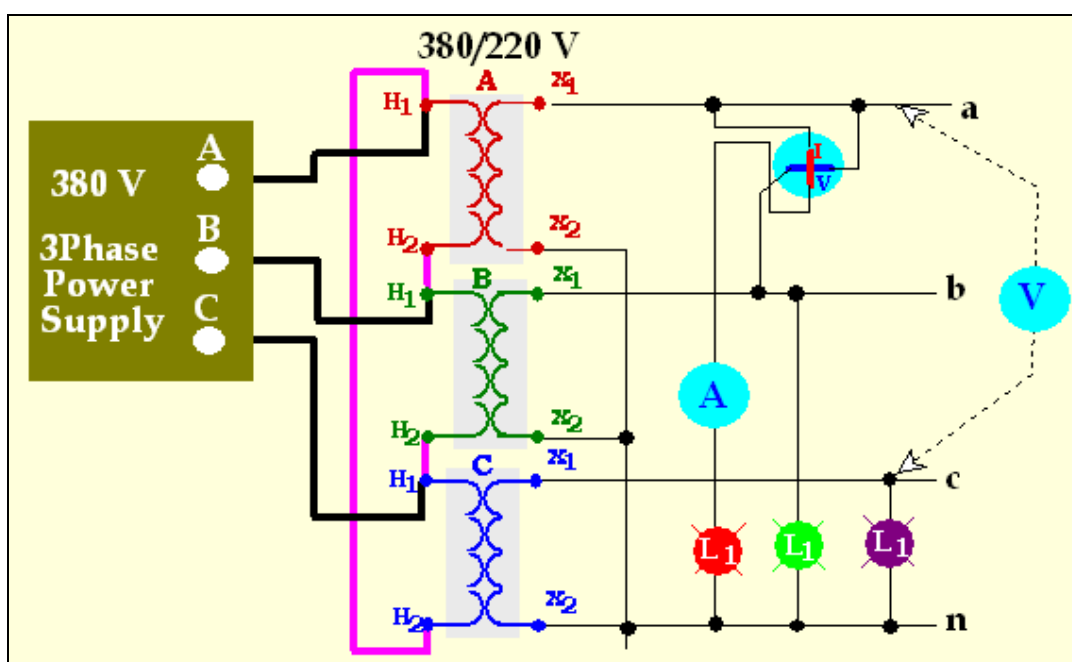

Fig. 1-1(a)
1. Ensuring the 3- ϕ power is switched off, connect the 3- ϕ power circuit, as shown in Fig. 1-1(a) to 380VAC power supply.